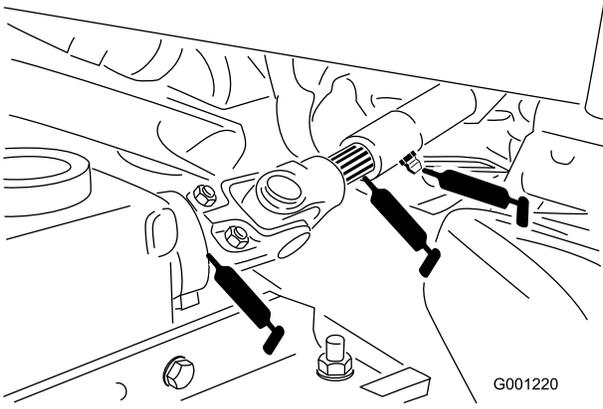

Figure 37
- PTO universal shaft (Figure 37)